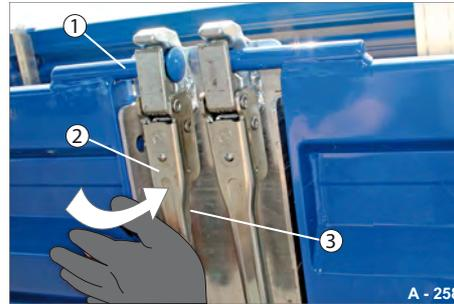

Fig. 130 Closing the platform gate
- ▶ Close the fastener lever (Fig. 130/2) by pressing it shut with the palm of your hand. The safeguard (Fig. 130/3) automatically snaps shut.